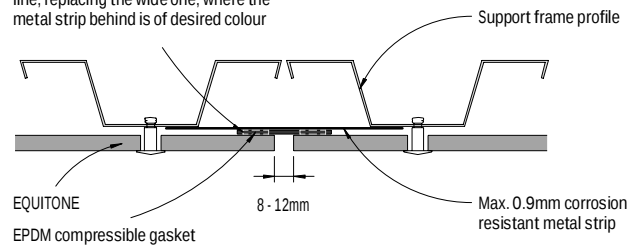

Figure 6: Vertical joint - Detail 2
- 2) In Figure 6 & 7, the metal strip should be fixed ONLY to one of the support frame profiles (either left or right) where allowance for horizontal and/or vertical movement of the cladding frame is required.